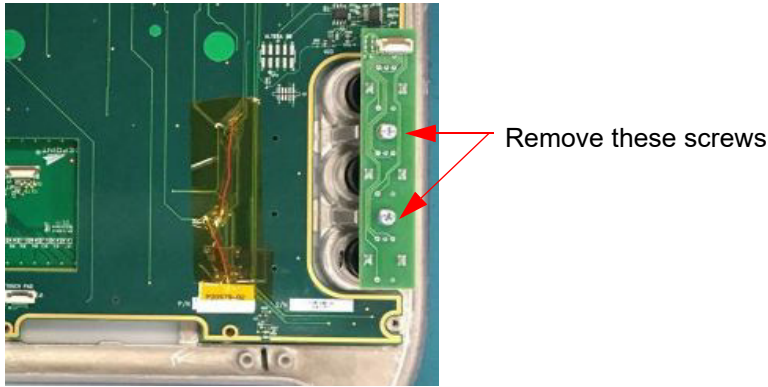

Figure 6.9 TGC Removal
- 1 Lay the Control Panel on its top, exposing the bottom with the TGC Assembly on the right and remove 2 screws shown in Figure 6.9.